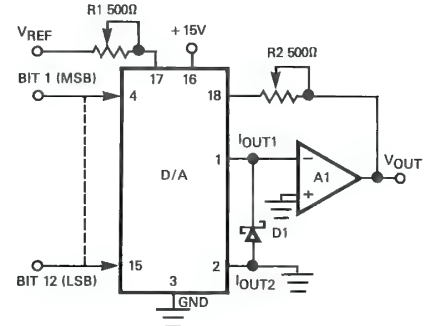

Figure 15. Unipolar Binary Operation
1. Protection diodes as shown in Figures 15 and 16.
The digital input is offset binary coded and multiplies V_{REF} according to Table 2. Resistors R1 and R2 should be equal within 0.1% at all temperatures, but need not track the resistors within the DAC. D1 and D2 perform the same function as in Figure 15. Network R3, R4 and R5 sum $\frac{1}{2}$ LSB of current into I_{OUT2} to ensure correct coding at zero.
Table 1. Code Table for Unipolar Operation (Figure 15)
With the D/A connected in its normal multiplying configuration shown in Figure 15, the transfer function is